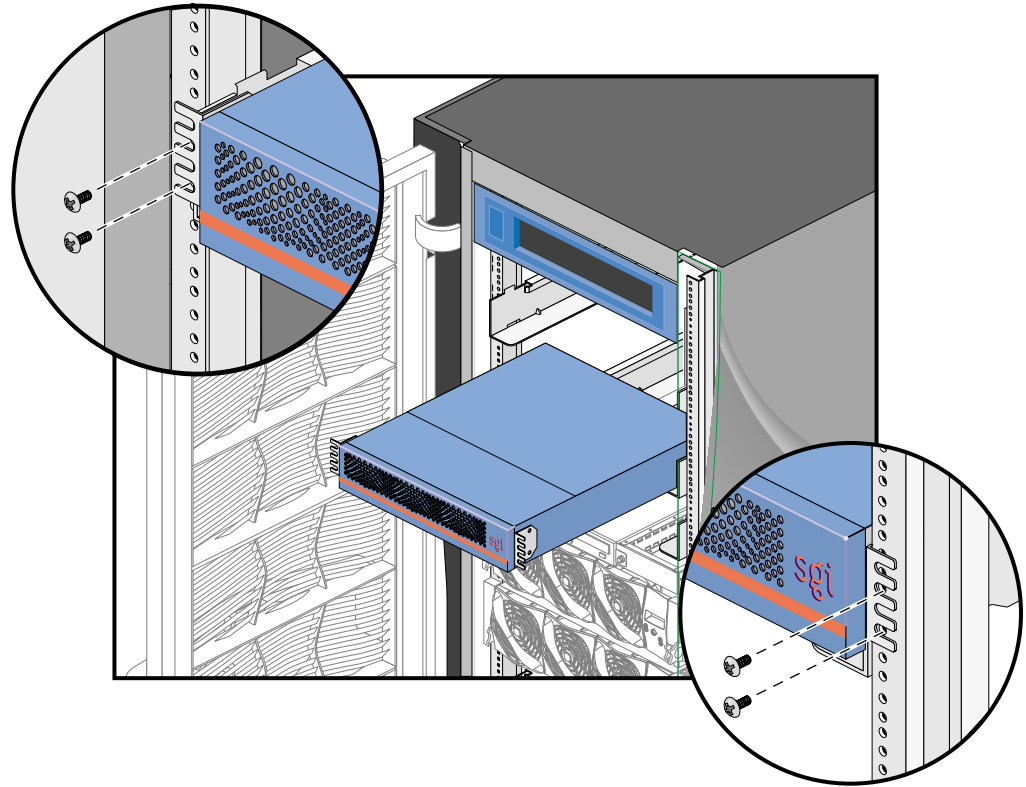

Figure 2-2 Installing VBOB in the Rack
4. Attach the VBOB to the rack, as shown in Figure 2-2, using appropriate screws for your rack.